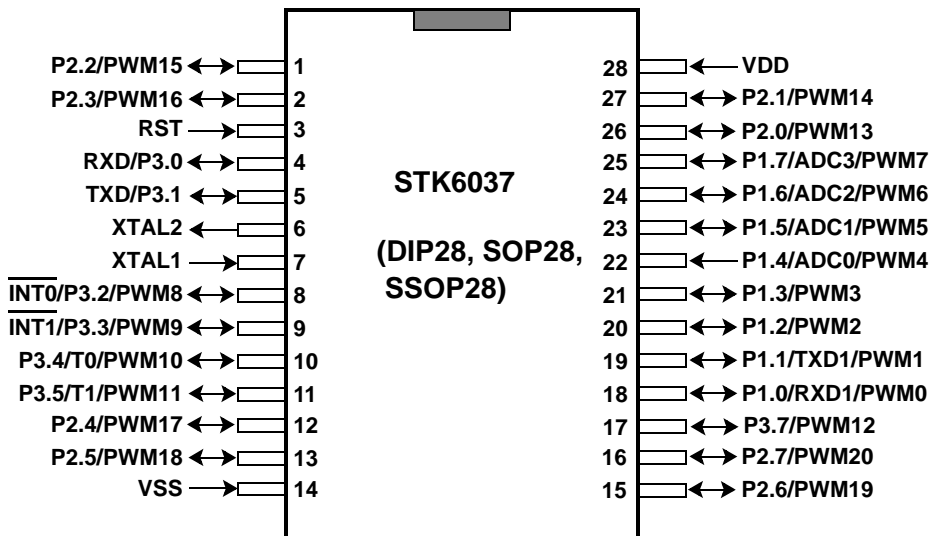

Fig.3 Pin configuration of SOP28, DIP28, and SSOP28
- Fig. 3** Pin configuration of SOP28, DIP28, and SSOP28.....Page 12